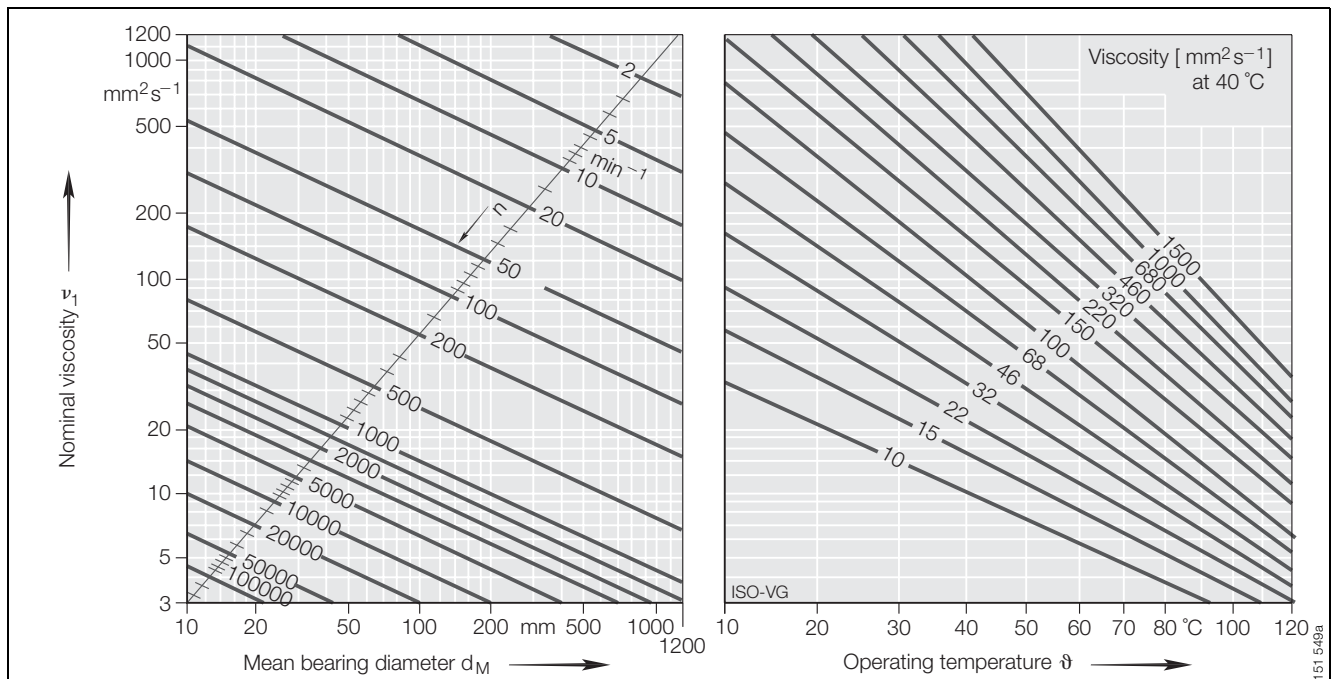

Figure 6 · Determining the nominal viscosity  $\nu_1$
- at least the nominal viscosity  $\nu_1$  (Figure 6).
### Determining the nominal viscosity $\nu_1$ (Figure 6)